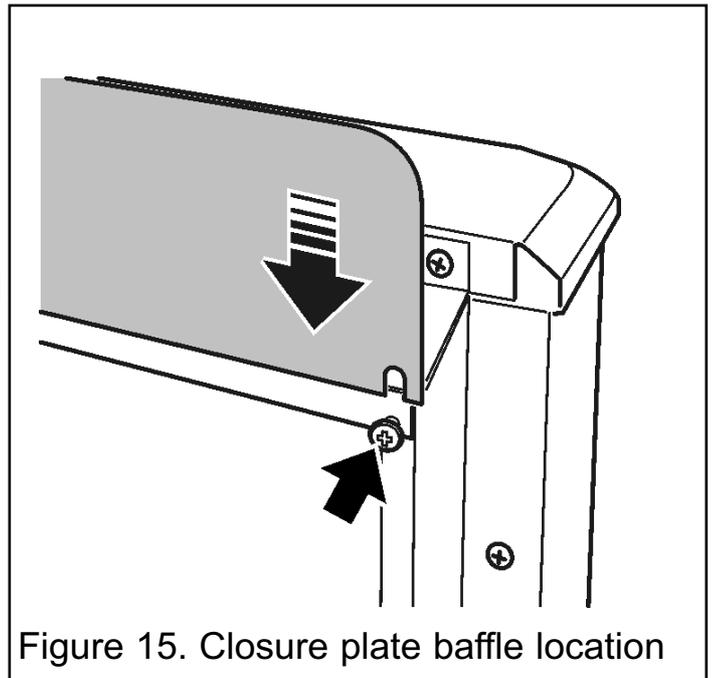

Figure 15. Closure plate baffle location
8.2.3 Locate the baffle onto the screws as in figure 15. The baffle is angled and should lean towards the rear of the fire.